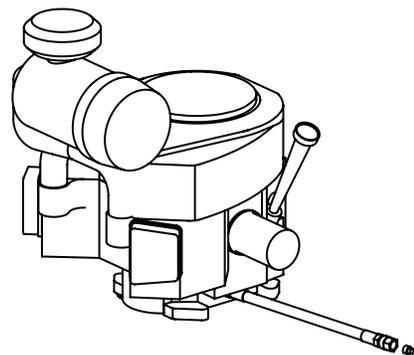

Figure 32
2. Locate the oil drain hose on the engine (Figure 32).
5. While holding the free end of the oil drain hose over the oil collection container, unscrew the square-head hose plug from the end of the hose (Figure 32 on page 24). Drain the engine oil into the collection container.